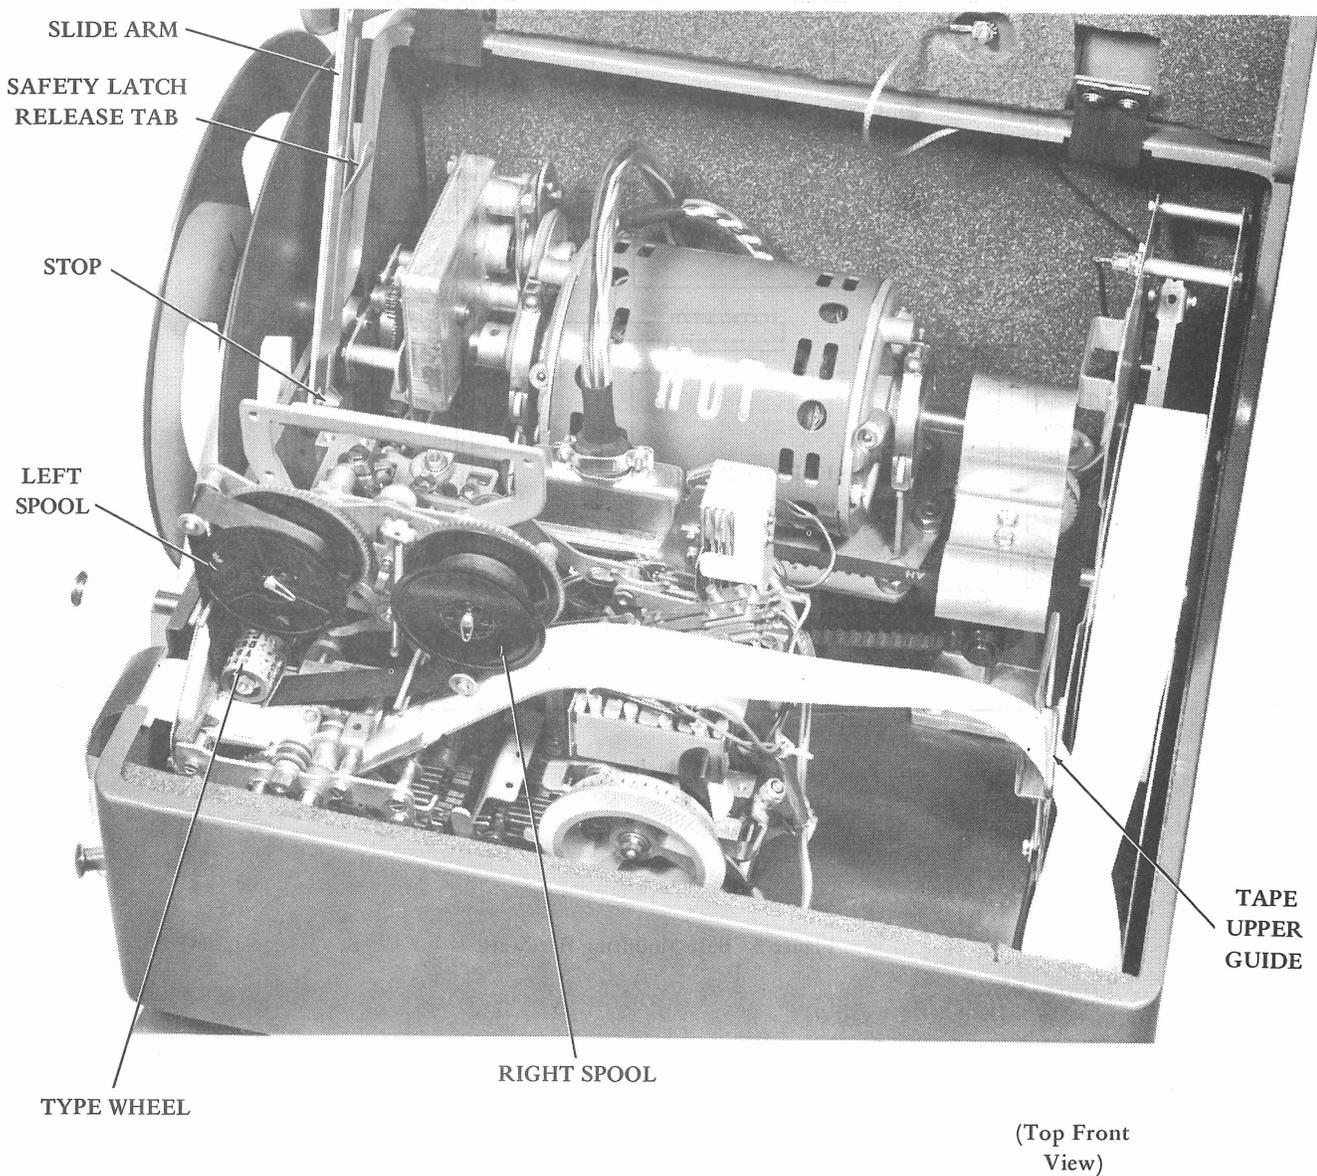

Figure 4 - ROTR Ribbon and Tape Installation
2.02 Open the cover lid. A slide arm with a safety latch will hold the lid open. Close the lid by depressing the release tab and raising the lid to its limit. Next, lift the lower end of the slide arm and lower the lid with the release tab depressed. When the latch starts sliding over the top of the stop, release the safety latch (Figure 4).
#### 4. RIBBON INSTALLATION (Figure 4)
#### 5. PAPER TAPE INSTALLATION (Figures 4 and 5)